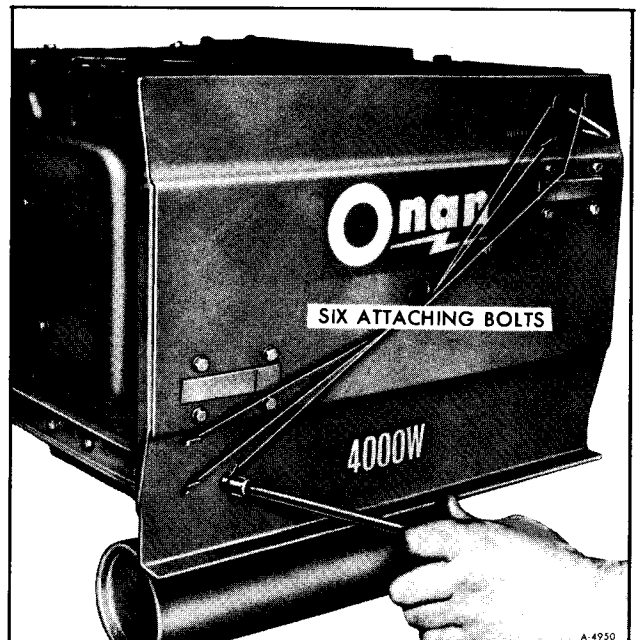

Figure 47—Removing Attaching Bolts from Slide Out Door
3. Remove the slide out door by removing the six attaching bolts (See figure 47).